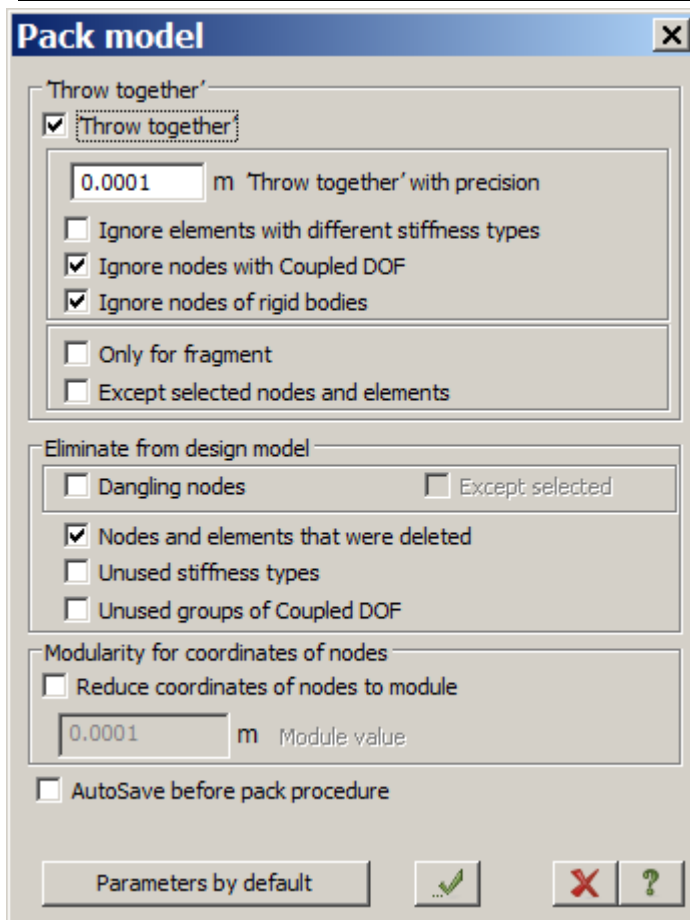

Figure 21.3 Pack model dialog box
- ⇒ In the **Pack model** dialog box (see Fig.21.3), click **Apply** . It is necessary to pack the model in order to 'throw together' coincident nodes and elements and to eliminate (that is, to remove completely) deleted nodes and elements from design model.